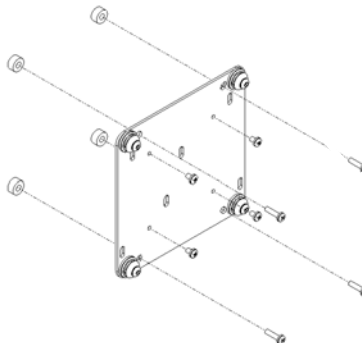

Figure 2
4. Using 1/8" hex key, remove (4) mounting buttons from adapter bracket.
5. Using four tapped holes (see Figure 2) of interface bracket and M4-.7 X 6mm Phillips Screws (provided), secure interface bracket to any 75mm VESA pattern.